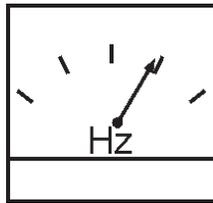

Figure 46. Frequency Meter (Hz)
11. The generator's frequency meter (Figure 46) should be displaying the 50 cycle output frequency in **HERTZ**.